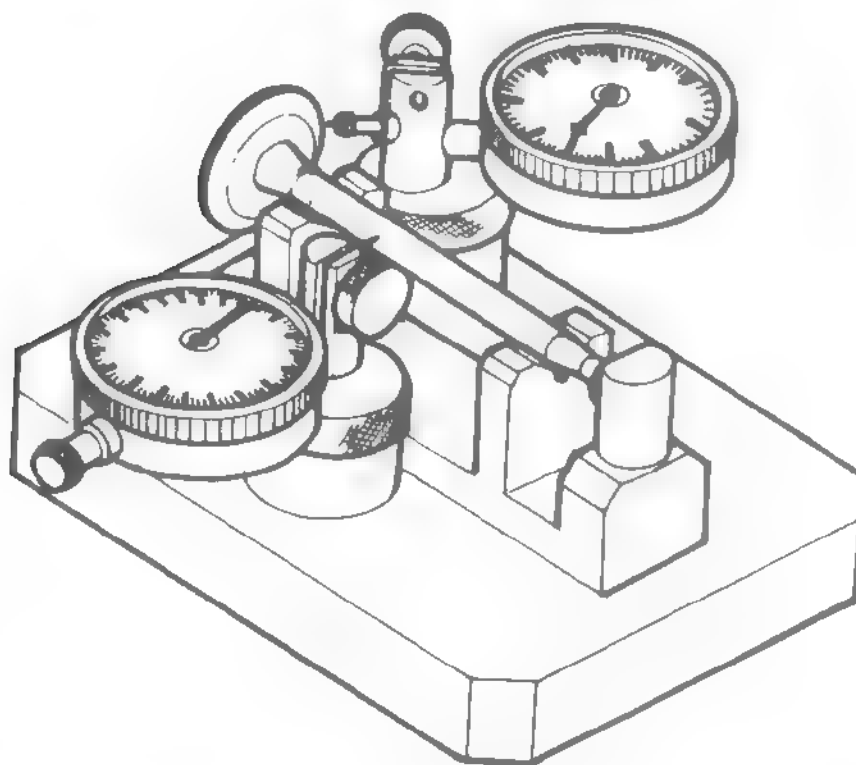

Fig. 4.56. CHECKING VALVES BY MEANS OF D-11 DEVICE.
- Check radial runout of the valve bevel edge by means of D 11 dial gauge checker, as shown in Fig. 4.56.